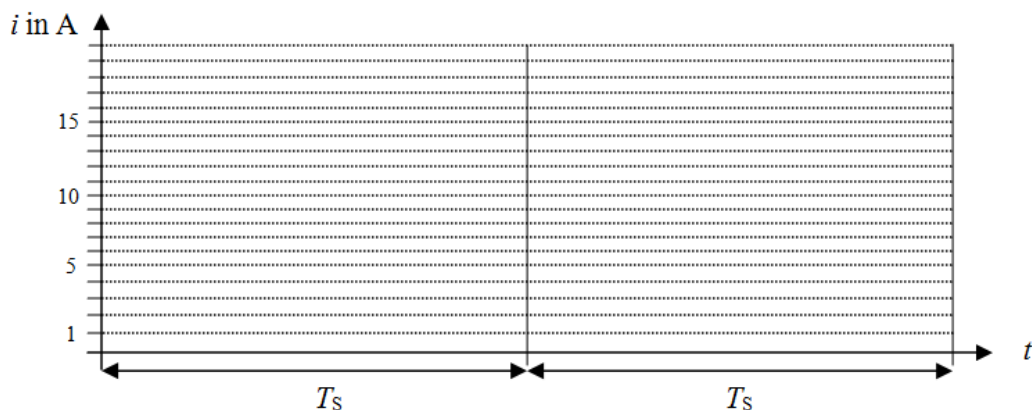

Figure 2.2: Inductor, diode and output current
- 2.3 The value of the inductor  $L$  is 1.68 mH. Calculate the current ripple  $\Delta i_L$  and draw the currents  $i_L(t)$ ,  $\bar{i}_L(t)$ ,  $i_D(t)$  and  $\bar{i}_2$  over two switching periods in the diagram of Figure 2.2.